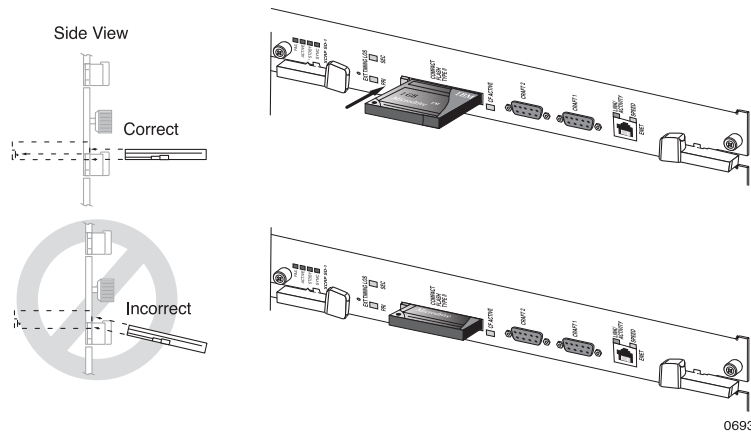

Figure 36 Installing an External Storage Device
4. Horizontally align the device as close to the bottom edge of the slot as possible and perpendicular to it; see Figure 36.